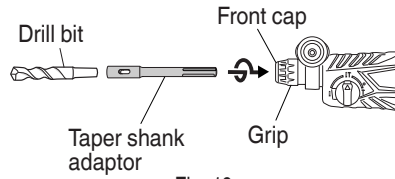

Fig. 16
- (1) Mount the taper shank adaptor to the rotary hammer. (Fig. 16)
- (2) Mount the drill bit (taper shank) to the taper shank adaptor. (Fig. 16)
- (3) Turn the switch ON, and drill a hole in prescribed depth.